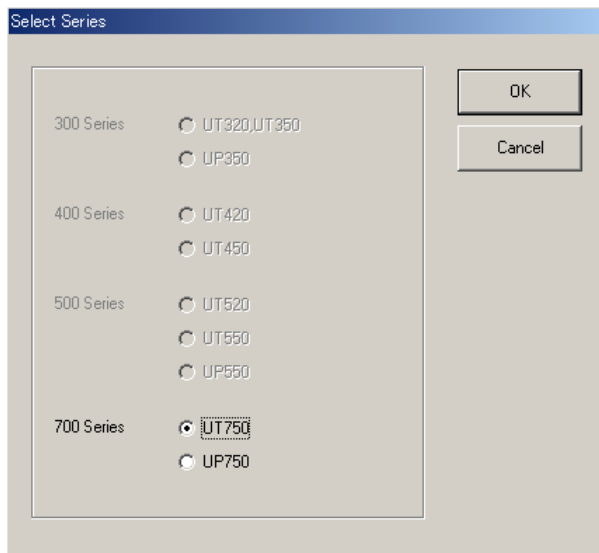

Figure 15.1.2 Select Series Dialog Box for Custom Computation Building Tool
- (1) Click **Parameter setting**, and then choose **Run custom computing tool**. The Select Series dialog box for custom computation building tool (Figure 15.1.2) appears.